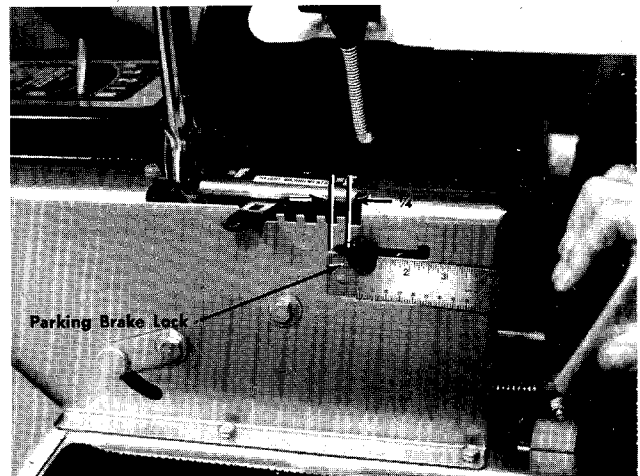

FIGURE 22. PARKING BRAKE LOCK
2. If adjustment is correct, parking brake lock will have moved approximately 1/4". See figure 22.